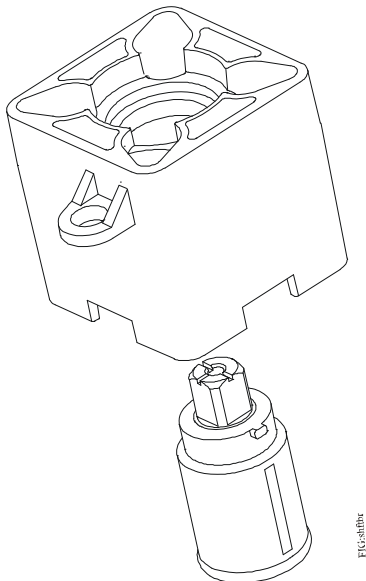

Figure 29: Installing the Drive Shaft into the Thermal Barrier
1. Install the thermal barrier drive shaft into the thermal barrier by aligning the tab on the drive shaft with the slot on the thermal barrier (Figure 29).